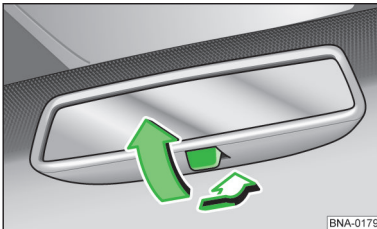

Fig. 34
- For dimming, pull the lever back » fig. 34.